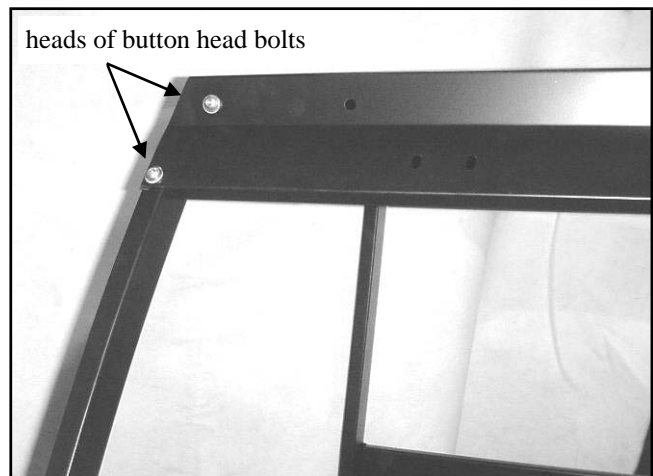

Fig. 11.1
11.1 With assistance, install the windshield support using a total of four button head bolts  $5/16 \times 3/4$ " long, four plastic washers, six steel washers, and two locknuts. Two of the four bolts go into factory installed threaded inserts in the side frame as shown in fig. 11.1. All four bolt heads to be facing towards the front of the vehicle. Note: there will be a top hole on each side that will not get hardware until the roof is installed on the next page (step 14).